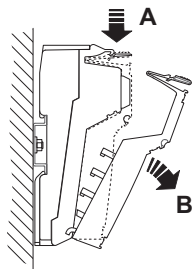
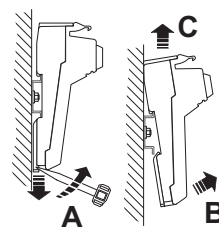

Figure 10-19 Removing a connector
Figure 10-20 Removing the base
- Lift the connector that is to be removed by pressing on the back connector shaft latching (Figure 10-19, A).
- Remove the connector (B).
- Insert a tool in the base latch and pull gently upwards (Figure 10-20, A). Pull the module out from the DIN rail (B, C).